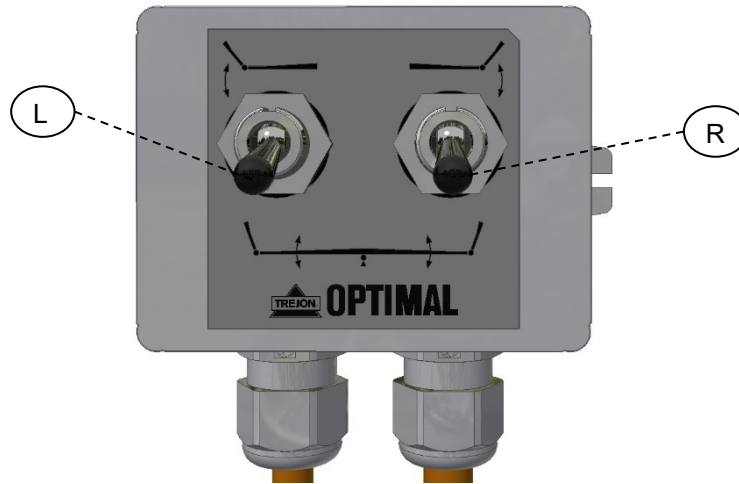

Figure 25
The UPX plough is supplied with a control box (**art. no. 330006**). The control box's toggle switch (L) and (R) – see Figure 25 – can be set in four different positions (see the table below).